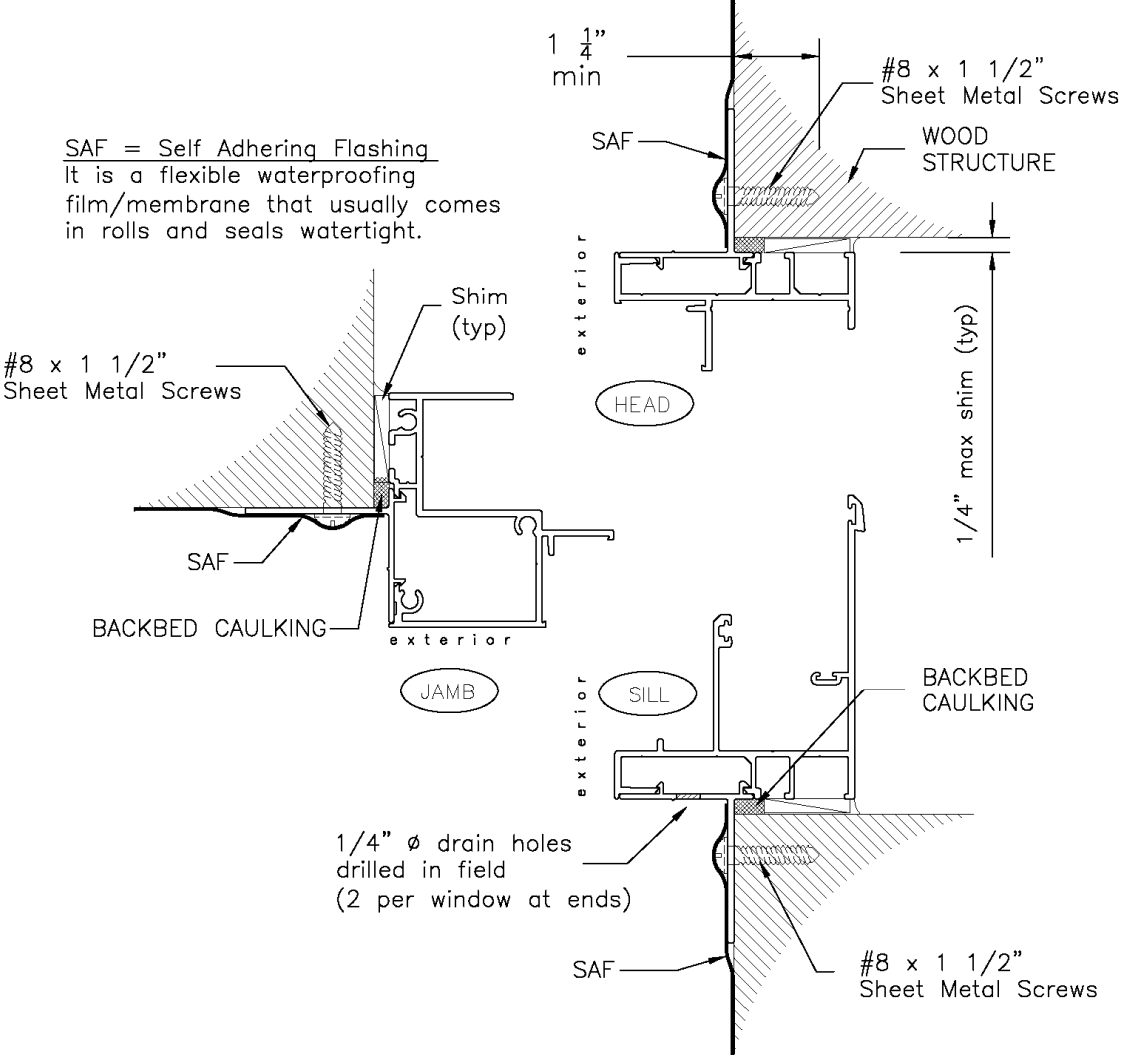

Figure 6: Installation type "D" using Fin Frame
Page 10:	Figure 6: Installation type "D"
INSTALLATION INSTRUCTIONS **for Fin Frame Windows (Refer to Figure 6)**
5. After fin adaptor is attached, drill two ¼” diameter drain holes (approx. 4” from each end) at the bottom fin adaptor on each window (*refer to figure 6*). This will allow any water that may get trapped behind the fin adaptors and the window to drain out. Note: These holes can also be drilled prior to attaching the adaptor.
8. Secure window using installation screws as selected from the approval documents for your specific application (*see figure 6*). Shim window to main structure at every installation screw location (shim space should not exceed ¼”). You can